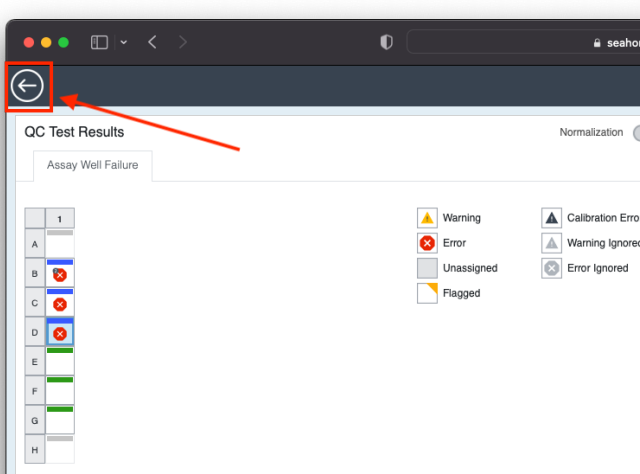

Figure 19. The Data Quality Exit icon.
11. Exit the Data Quality analysis view by clicking the back arrow in the upper-left corner (Figure 19).